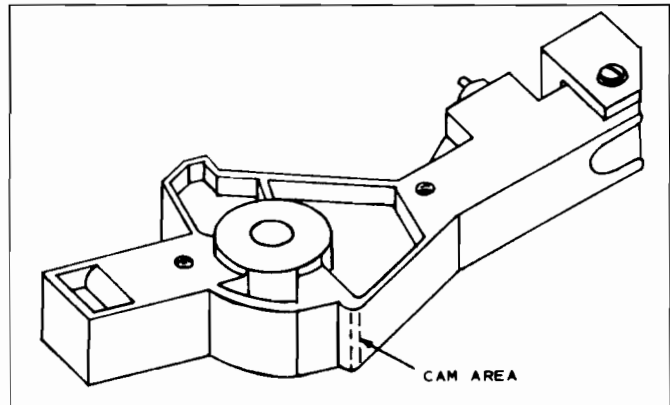

Figure 12. Actuator Contact Assembly
- Inspect lock (item 12) for proper alignment. Retrofit kit RPX4634A may be installed to insure proper alignment.
- Remove outer cover (item 1) and check all hardware for tightness, observing the torque specifications shown on the Mechanical Parts Detail diagram.
- Inspect cam area for wear; see Figure 12. The cam area should not be grooved or worn out in excess of $\frac{1}{64}$ ". If the actuator cam area is worn excessively, the actuator should be replaced.
- Inspect the gold contact pins (Items 141, 142, and 143) for excessive wear and insufficient contact pressure by checking the spring resiliency (items 140 and 144).
- Inspect battery contacts (item 73) for excessive wear, misalignment, and spring resiliency.